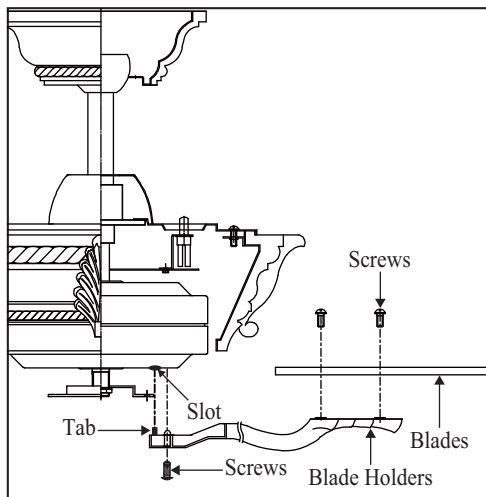

Figure 16
1. Attach the fan blades to the blade holders using the screws provided, tighten screws securely. (Fig. 16)
2. Rotate motor so that the screw holes are revealed through the opening on mounting ring. Align motor holes to blade holders and secure with screws provided, tighten screws securely. (Fig. 16)